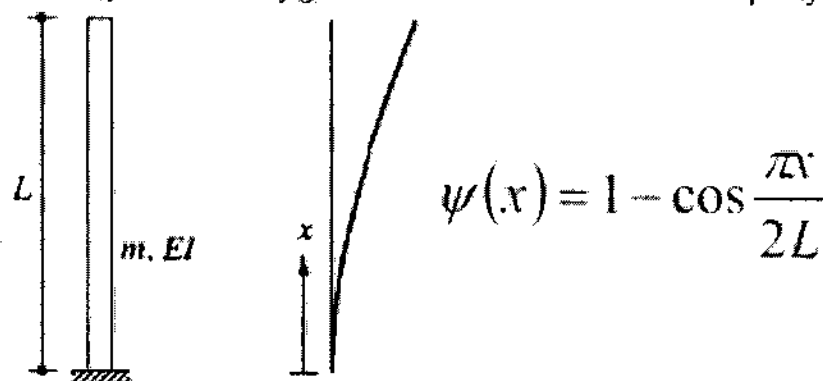

Figure 1
- a) Derive the equation of motion of vibratory system for simple harmonic method. (6)
- b) What is damping and explain types of damping (6)
- a) Derive the Duhamel's integral which represent the total displacement produced by the exciting force acting on the undamped oscillator. (8)
- b) Explain Time stepping method for a SDOF under general loading (4)
- a) A uniform cantilever tower of length L has mass per unit length $= m$ and flexural rigidity EI is shown in figure 1. Assuming the shape function $\psi(x) = 1 - \cos(\pi x/2L)$, formulate the equation of motion for the system excited by ground motion and determine natural frequency. (6)